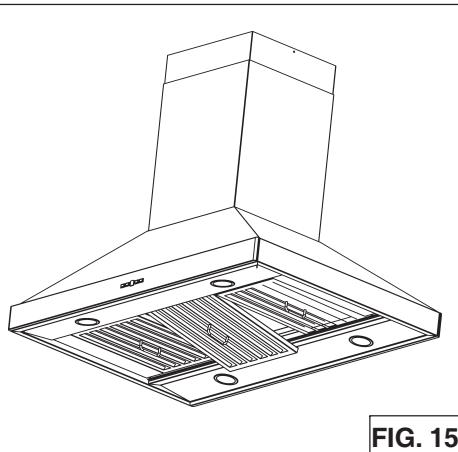

FIG. 15
1. To remove the GREASE filter, (Fig. 15) push the filter towards the front so that it clears the filter channel, then pull down on the handle to disengage the filter from the hood. Tilt the filter downward and remove.